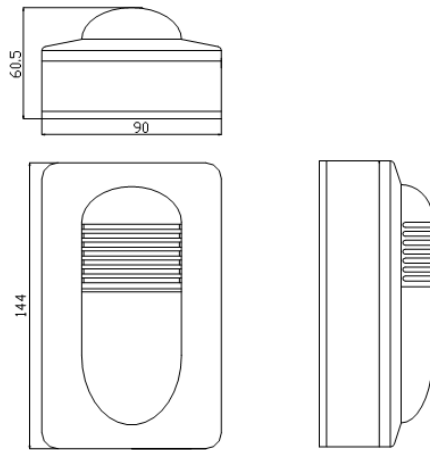

Fig. 1 Structure
1. Structure of the sounder strobe is shown in Fig. 1.